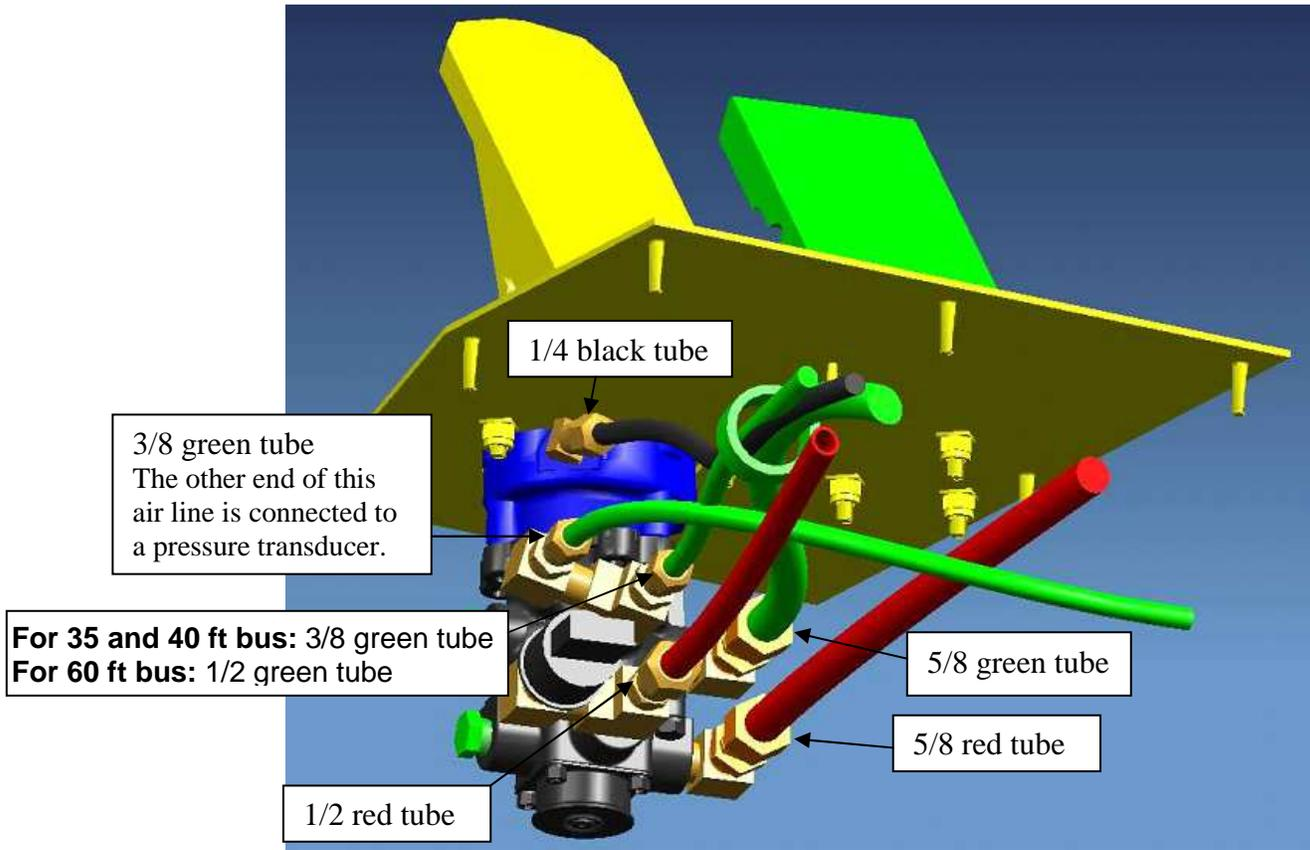

Figure 22: Airline Connections to the E6 and BVA Valves
**NOTE:** Double-check the connections with Figure 22.